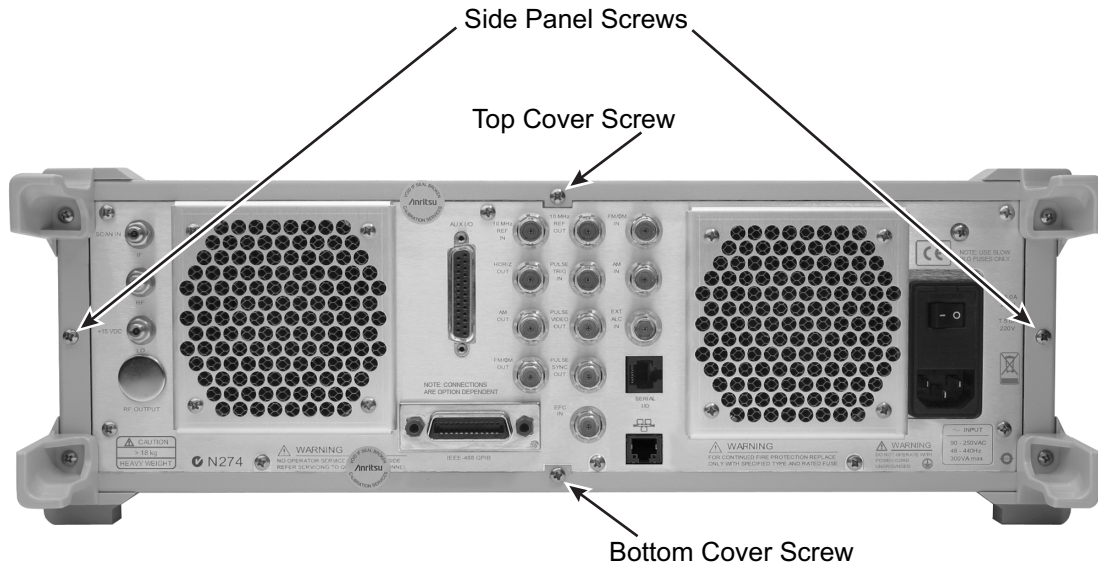

Figure 7-2. Rear Panel Retaining Screw Locations
3. Remove the screw that fastens the top cover to the chassis (see Figure 7-2 on page 7-9).
6. Remove the screw that fastens the bottom cover to the chassis. See Figure 7-2. At the rear of the instrument pull the cover upwards about 1.5 inches then pull the cover towards the rear of the instrument while sliding the cover out along the grooves in the chassis.
9. Remove the screw that fastens the left side cover to the chassis. See Figure 7-2.
11. Remove the screw that fastens the right side cover to the chassis. See Figure 7-2.